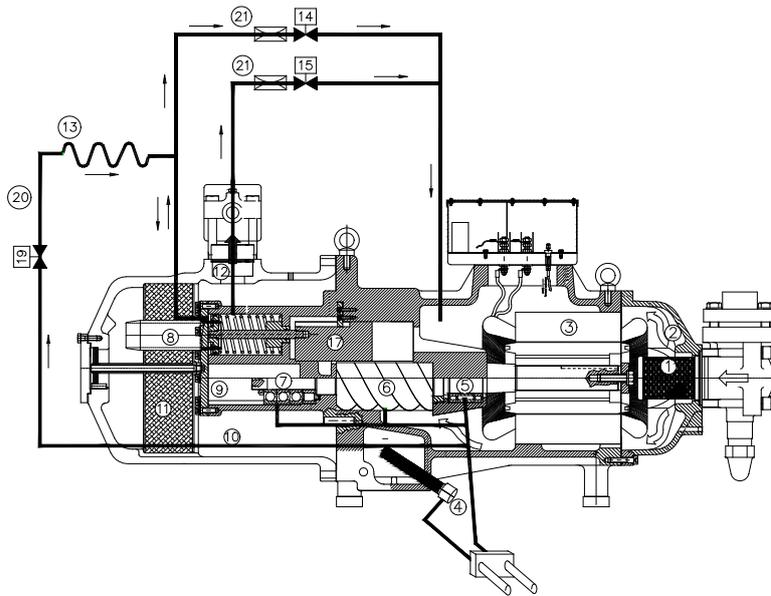

Fig. 24: infinite capacity control oil circuit (step less configuration)
The oil channels must be throttled to achieve slower motion and more accurate positioning of the control piston. With reference to the Fig. 24, the load channel (20) can be throttled by installing a modified capillary tube or a reduced orifice(13). The unload channel (14) or (15) can be throttled by installing an orifice (21) upstream the solenoid valve.
In the infinite configuration, on the other hand, this pipe is closed by the solenoid valve (19), see Fig. 24, which is normally closed. Consequently, unless the solenoid valve (14) is energized before stopping, the oil cannot flow out of the cylinder and as a result the compressor is not discharged.